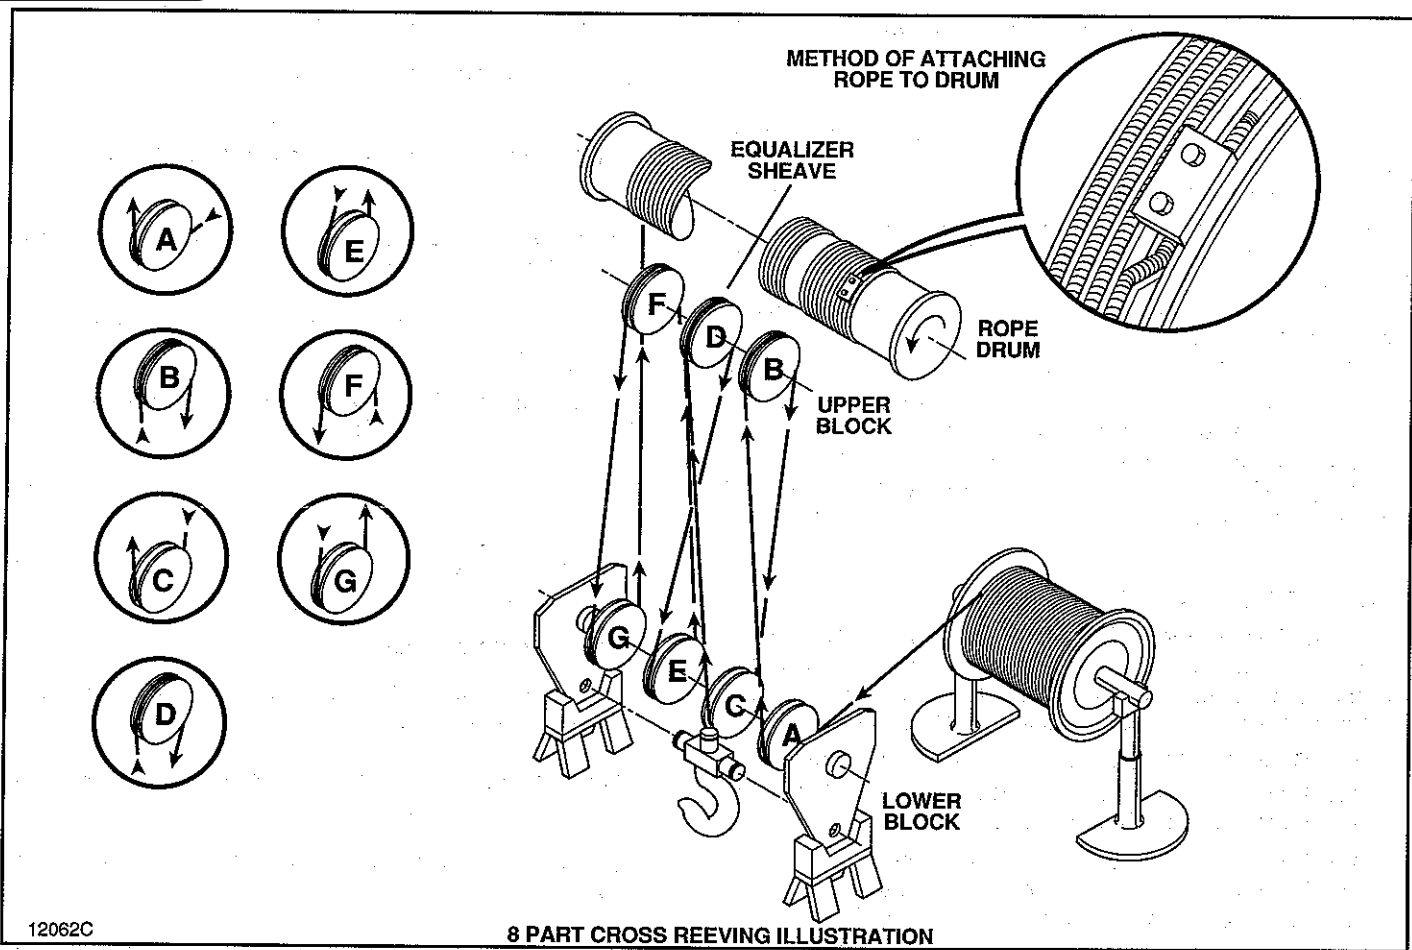

Figure 2-2. Cross Reeving.
e. The following reeving instructions are based upon 8 parts of rope. Figure 2-2 illustrates CROSS reeving. As shown in the Figure, provide a support stand for the lower block, and position block directly under the trolley. Provide a support for the reel, positioned as shown, which will allow reel to turn freely. (If rope is furnished in a coil, provide similar support to allow coil to rotate as rope is removed.)
f. As shown in Figure 2-2, thread free end of rope through lead (drum) side of the outside sheave of the lower block. From there pull rope up to upper block sheave. Pass free end of rope over upper sheave and then down and under the inside sheave in the lower block. Continue to pull rope back up the upper block and pass over the equalizer sheave. (Note that rope goes from back side of the equalizer sheave to front side of sheave in lower block). Now pull rope down from equalizer and pass under the inside lower block sheave, and back up to the upper block sheave. Pass the rope over the top of upper sheave, back down and under the outside sheave of the lower block, and then up to the drum. Anchor rope as shown in Figure 2-2, spin off remaining rope on the reel, and bring free end of rope to the drum and anchor.